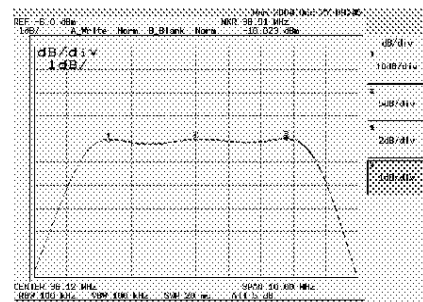
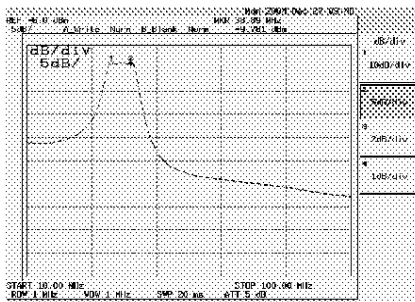

Fig. 4
Fig. 5
- Set JP3, JP4 and JP5 on and check the response of the filter curve (Fig.4) to the desired passing band, if needed retouch R3, R5 and R7 to correct the ripple in band and C1, C3 and C4 to equalise the group delay of the filter obtaining a frequency response as in Fig.5.